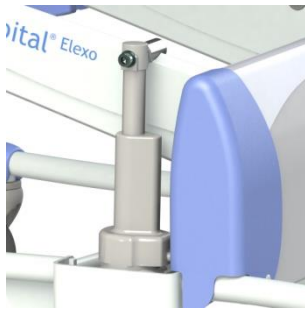

Figure 1 Screw actuator
- Check whether the bolts of the actuator are securely fitted, both at the top and at the bottom. (See figure 1 and 2)